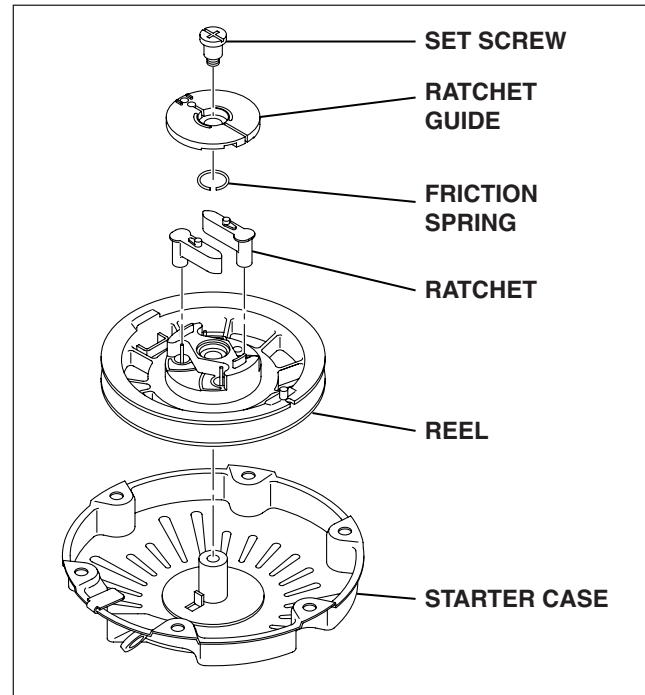

Fig. 13-2
(2) Remove the components. (Fig. 13-2)
(3) Remove the reel. (Fig. 13-2)
- 3 If the spring is about to pop out of the reel, repeat steps (3)-1 and (3)-2.